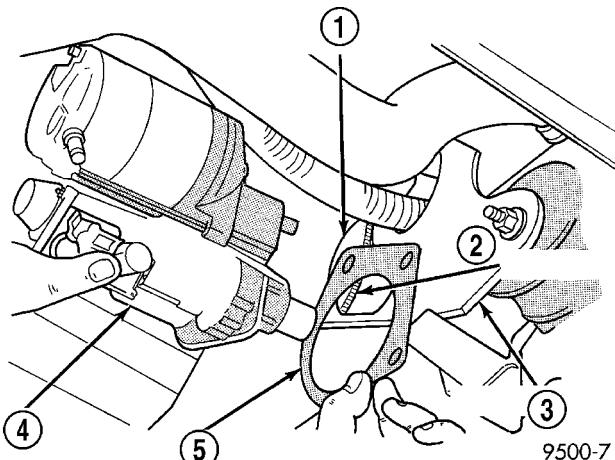

Fig. 7 STARTER 3.3/3.8L
- (7) Remove starter from bellhousing (Fig. 7).